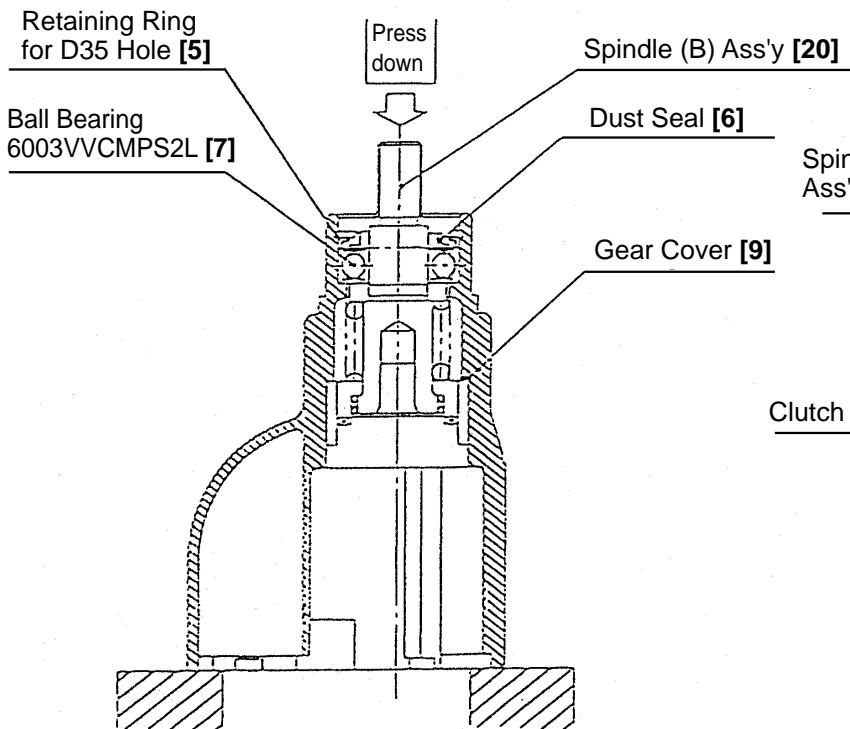
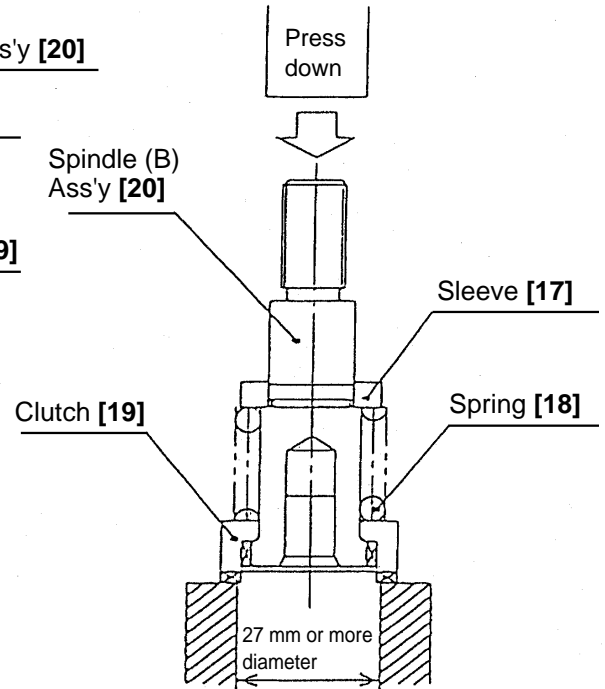

Fig. 4
Fig. 5
- (1) After removal of the Nut [4], press down on the tip of Spindle (B) Ass'y [20] with a hand press as shown in Fig. 4. Then Spindle (B) Ass'y [20] can be removed from the Gear Cover [9].
- (2) Remove the Retaining Ring for D35 Hole [5]. Then the Dust Seal [6] can be removed. Lightly tap the tip of the Gear Cover [9] with a wooden hammer to remove the Ball Bearing 6003VVCMP2L [7].
- (3) Support the Clutch [19] on a cylindrical jig and press down on the end surface of the Spindle (B) Ass'y [20] with a hand press as shown in Fig. 5. Then Sleeve [17] can be removed from Spindle (B) Ass'y [20] together with the Spring [18].